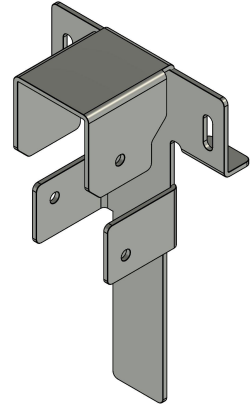

Figure 1 - Interior Wood Stud Bracket (WSB)
- 20 Interior Wood Stud Brackets (WSB) (fig. 1)
- 40 Interior Wood Stud Brackets (WSB) (fig. 1)